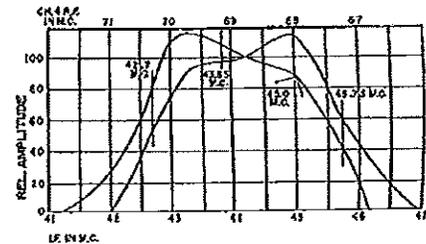

Fig. 3. Overall R-F I-F Response Curve
- Inject channel 4 sweep signal (69 mc with 6 mc sweep width). Adjust the following cores to bring the curve within limits (see figure 3).